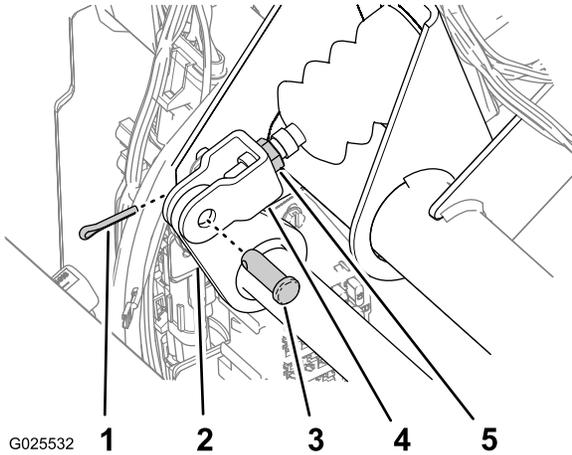

Figure 81
2. Remove the cotter pin and clevis pin securing the master-cylinder yoke to the brake pedal pivot (Figure 81).
4. Loosen the jam nuts securing the yoke to the master cylinder shaft (Figure 81).
5. Adjust the yoke until its holes align with the hole in the brake pedal pivot (Figure 81).
6. Secure the yoke to the pedal pivot with the clevis pin and cotter pin (Figure 81).
7. Tighten the jam nut securing the yoke to the master cylinder shaft (Figure 81).